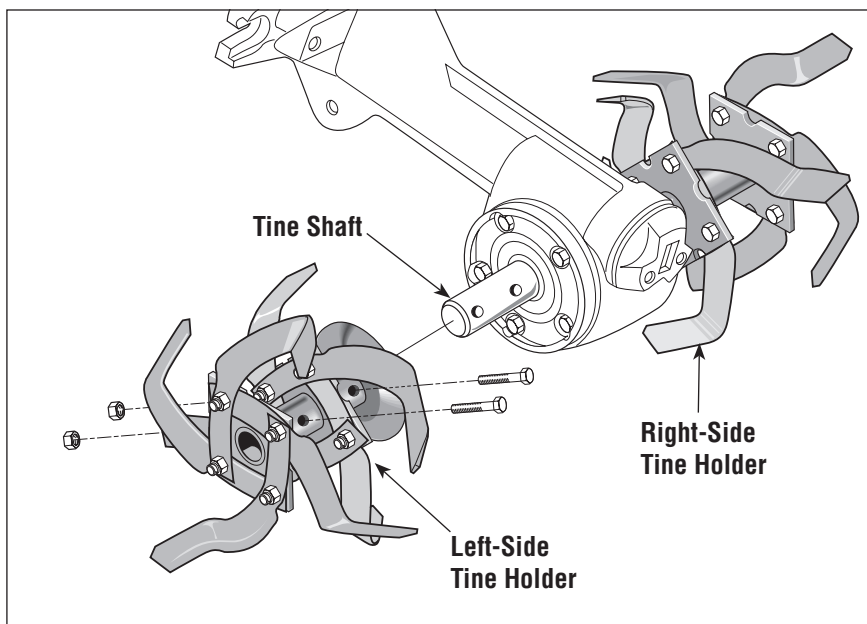

Figure 5-33: Tine Holders.
3. Remove the two bolts and nuts securing each holder (Figure 5-33).